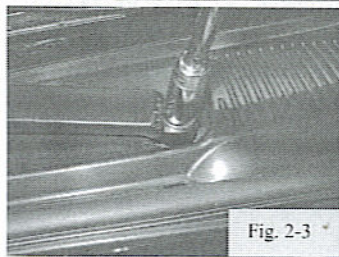

Fig. 2-3
- (d) Remove wiper mounting nuts. (Fig. 2-3)
- (1) Hold the wiper arm while loosening the nuts.